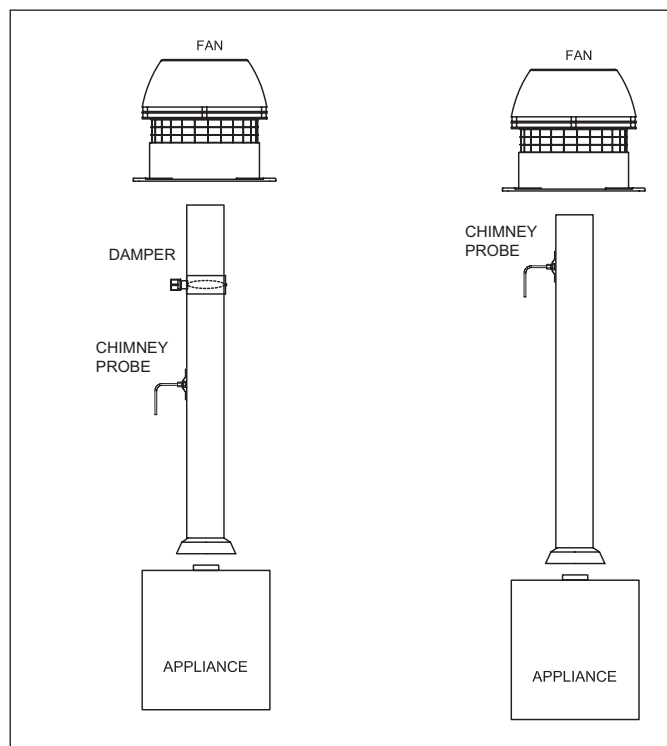

Fig. 4
Locate the probe at least a distance three (3) vent diameters away from any elbow, tee or damper. For fireplace installations, the probe should be installed close to the fan inlet. See Fig. 4.